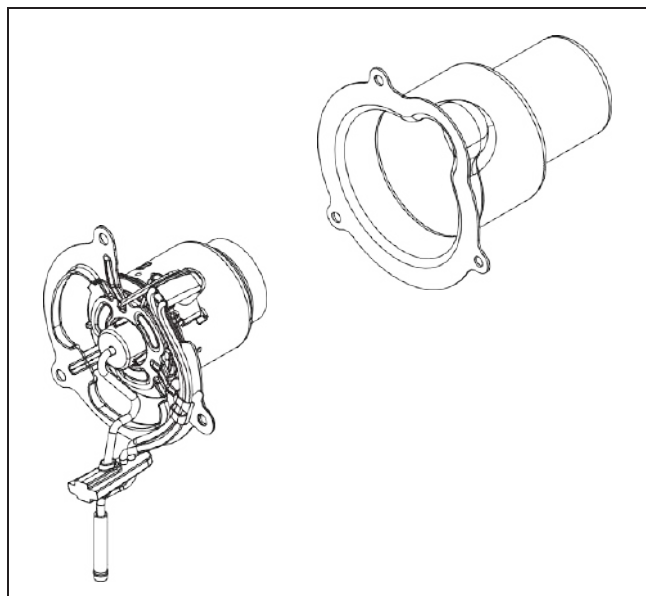

Fig. 5 Burner with combustion chamber
6. Unscrew the screw and remove the burner Fig. 5.